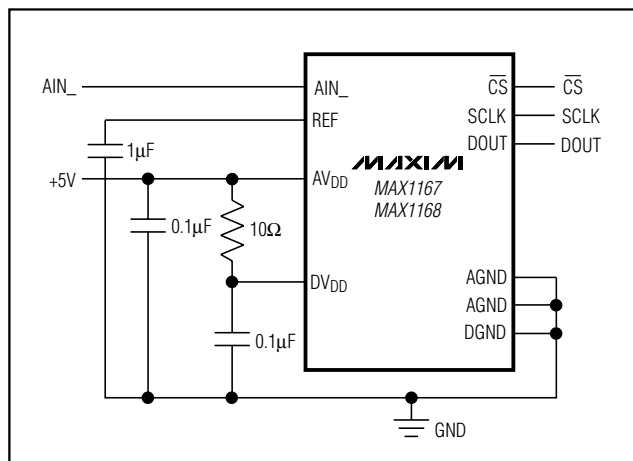

Figure 25. Powering AVDD and DVDD from a Single Supply
Use printed circuit (PC) boards with separate analog and digital ground planes. Do not use wire-wrap boards. Connect the two ground planes together at the MAX1167/MAX1168 AGND terminal. Isolate the digital supply from the analog with a low-value resistor (10 Ω) or ferrite bead when the analog and digital supplies come from the same source (Figure 25).